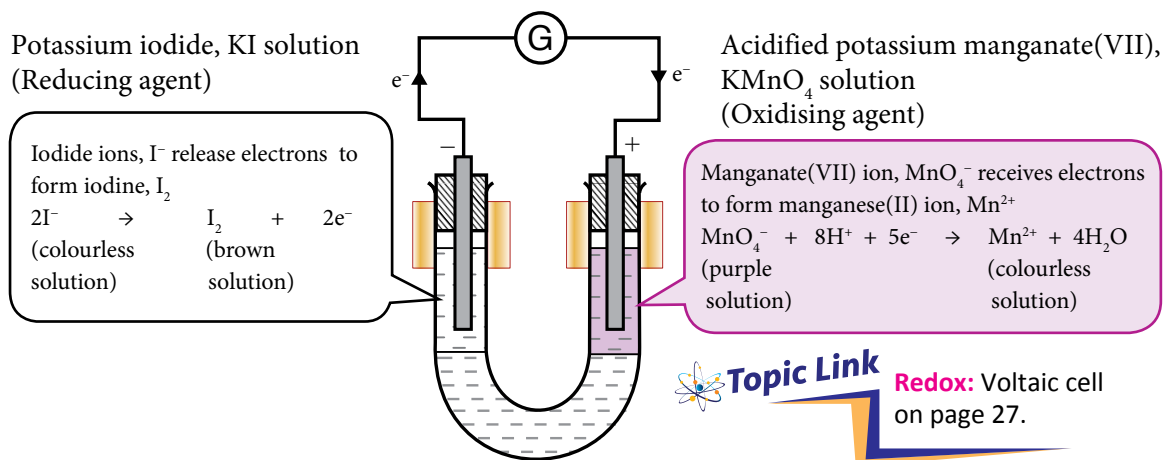

Figure 1.3 The set-up of apparatus to investigate the transfer of electrons at a distance
- Do you know how to write the half equation for potassium iodide, KI solution and the half equation for acidified potassium manganate(VII), KMnO_4 solution as shown in Figure 1.3?